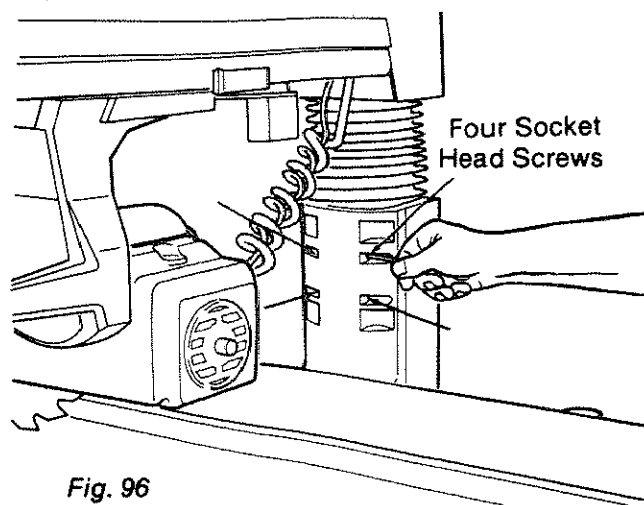

Fig. 96
1. Use a 1/8" hex "L" wrench to loosen the four screws in the front of the *column support*. (Figure 96)